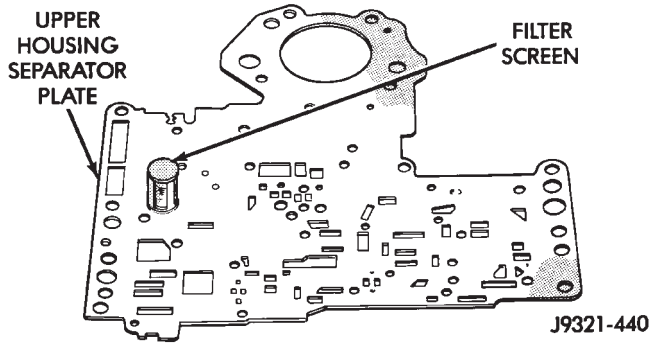

Fig. 79 Separator Plate Filter Screen Installation
(2) Install filter screen in upper housing separator plate (Fig. 79).